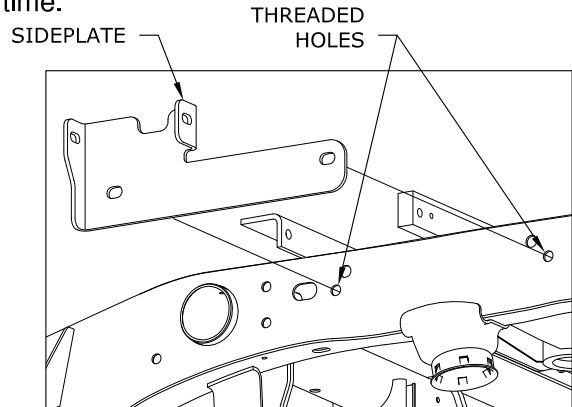
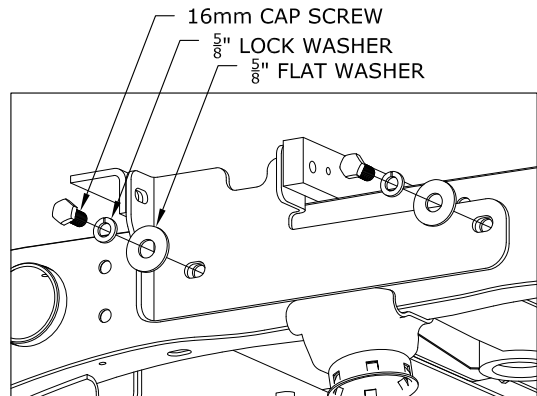
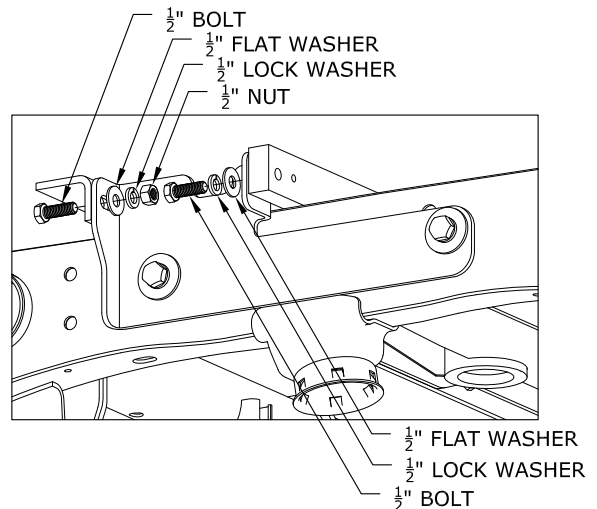

Figure C1: View from outside of Driver Side Frame
Figure C2: View from outside of Driver Side Frame
Figure C3: View from outside of Driver Side Frame
1. **Install the sideplates.** Place each sideplate against the frame so that the flanges are between the front and rear crossmember, see Figure C1. Attach each sideplate to the frame with two 16mm cap screws,  $\frac{5}{8}$ " lock washers and  $\frac{5}{8}$ " flat washers. The 16mm cap screws will screw into pre-existing threaded holes in the frame, see Figure C2. Attach the sideplate to the front and rear crossmembers with  $\frac{1}{2}$ " Bolts, flat washers, lock washers and nuts, as shown in Figure C3. Do not fully tighten the sideplate hardware at this time.